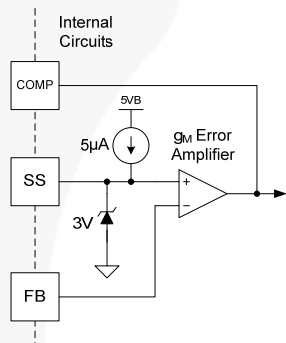

Figure 28. FAN9611/12 Error Amplifier Configuration
Implementing this function with a circuit external to the FAN9611/12 is straightforward because the error amplifier reference (the positive input) is available on the soft-start (SS) pin, as shown in Figure 28. In the FAN9611/12 architecture, the power of the converter is proportional to the voltage on the COMP pin, minus a small offset. The voltage on the COMP pin is monitored to determine the operating power of the supply. Therefore the voltage on the SS pin can be adjusted lower to achieve the desired lower output voltage.